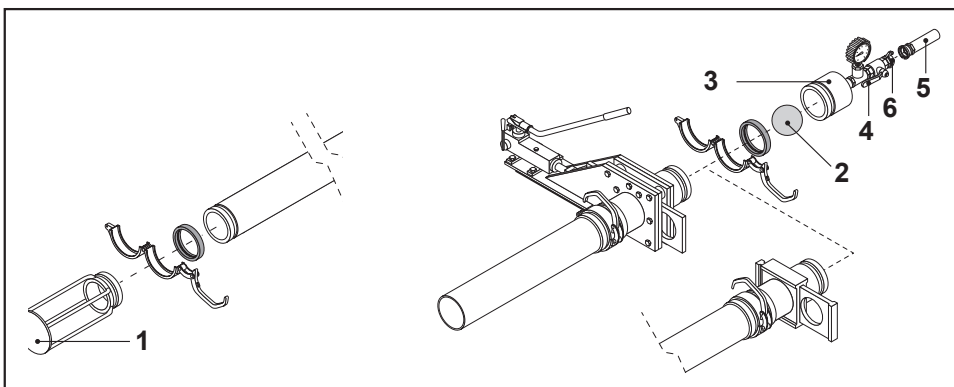

FIG. 53
- Connect the basket (FIG. 53-REF. 1) designed to catch the sponge to the end of the hose using a Victaulic coupling complete with rubber gasket.
- At the other end, introduce an adequately-sized pipe sponge (FIG. 53-REF. 2) soaked in water, connect the flushing cap supplied (FIG. 53-REF. 3) and make sure it is well fastened.
- Close the valve (FIG. 53-REF. 4).
- Connect the compressed-air hose (FIG. 53-REF. 5) from the compressor to the quick-release coupling (FIG. 53-REF. 6) on the flushing cap.
- Start the air compressor, open the valve (FIG. 53-REF. 4), pressurize the piping for a few seconds and then close the valve. The slurry will begin to flow out and the pressure shown on the pressure gauge will begin to fall.
- close the valve (FIG. 53-REF. 4)
- disconnect the compressed-air hose from the coupling (FIG. 53-REF. 6)
- open the valve (FIG. 53-REF. 4)